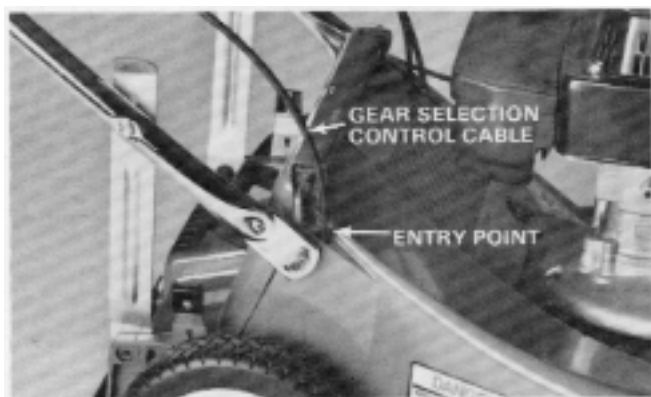

Figure 43
3. Slide the gear selection control cable about 30 cm (12") into the hole next to the right handle locknut. See Figure 43.